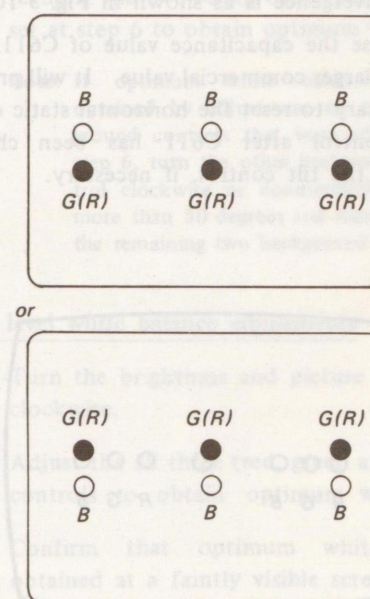

Fig. 3-8. Vertical magnetic convergence (VMC) control adjustment
- If the blue dot does not converge with the green and red dots at the center of the screen, adjust the vertical magnetic convergence (VMC) control as necessary. See Fig. 3-8.